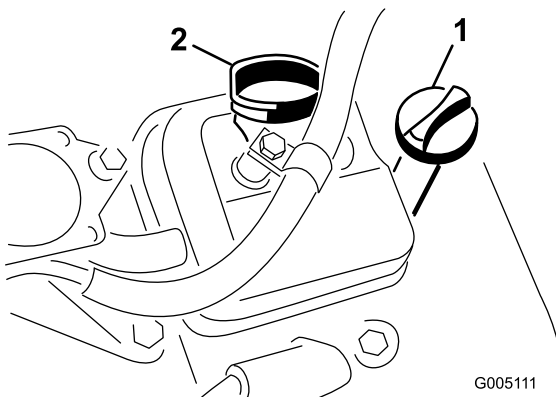

Figure 25
2. Unscrew the dipstick and wipe it with a clean rag. Screw the dipstick into the tube and make sure it is seated fully (Figure 25).